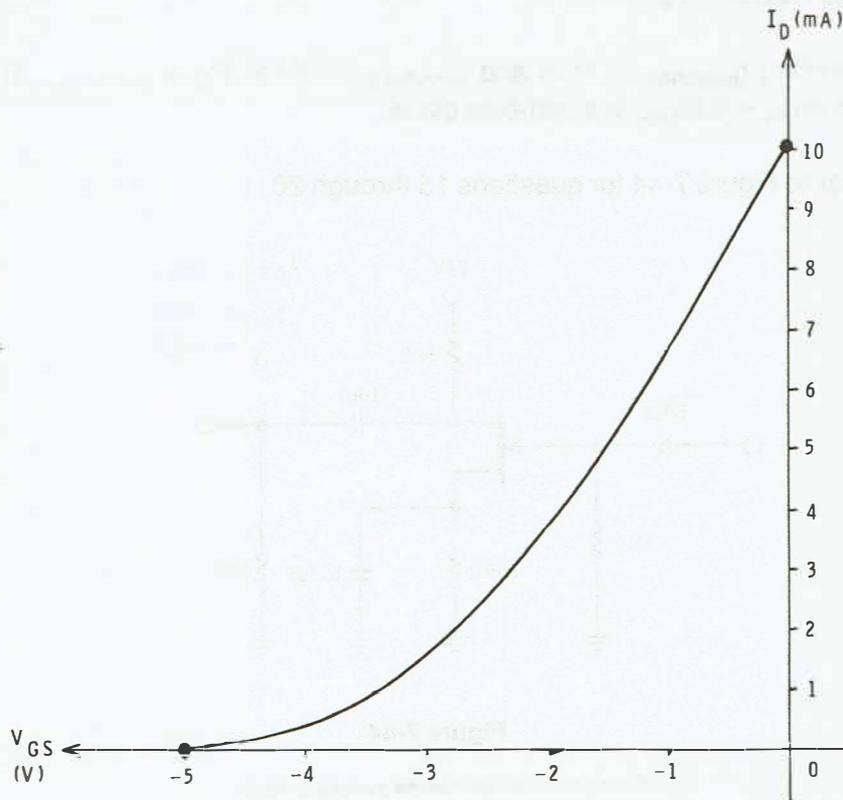

Figure 7-45
19. Figure 7-45 provides the JFET's transconductance curve. Using the transconductance curve, construct the bias curve for $R_S = 300\Omega$. Based on the resulting curve, $I_{DQ} = \underline{\hspace{2cm}}$ mA and $V_{GSQ} = \underline{\hspace{2cm}}$ V.